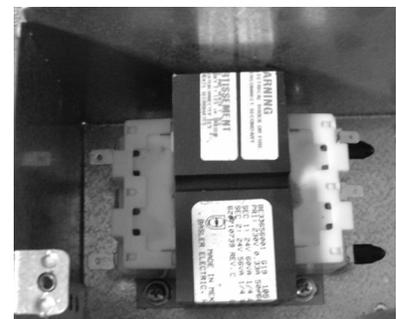

Figure 2. Transformer Mounting Orientation
1. Remove the four (4) wire leads from the transformer:
2. Remove the transformer from the electrical box by removing the four (4) 8-32 screws holding it in place.
3. Mount the new transformer with four (4) terminals (two terminals with black caps) toward the right side as shown in Figure 2.